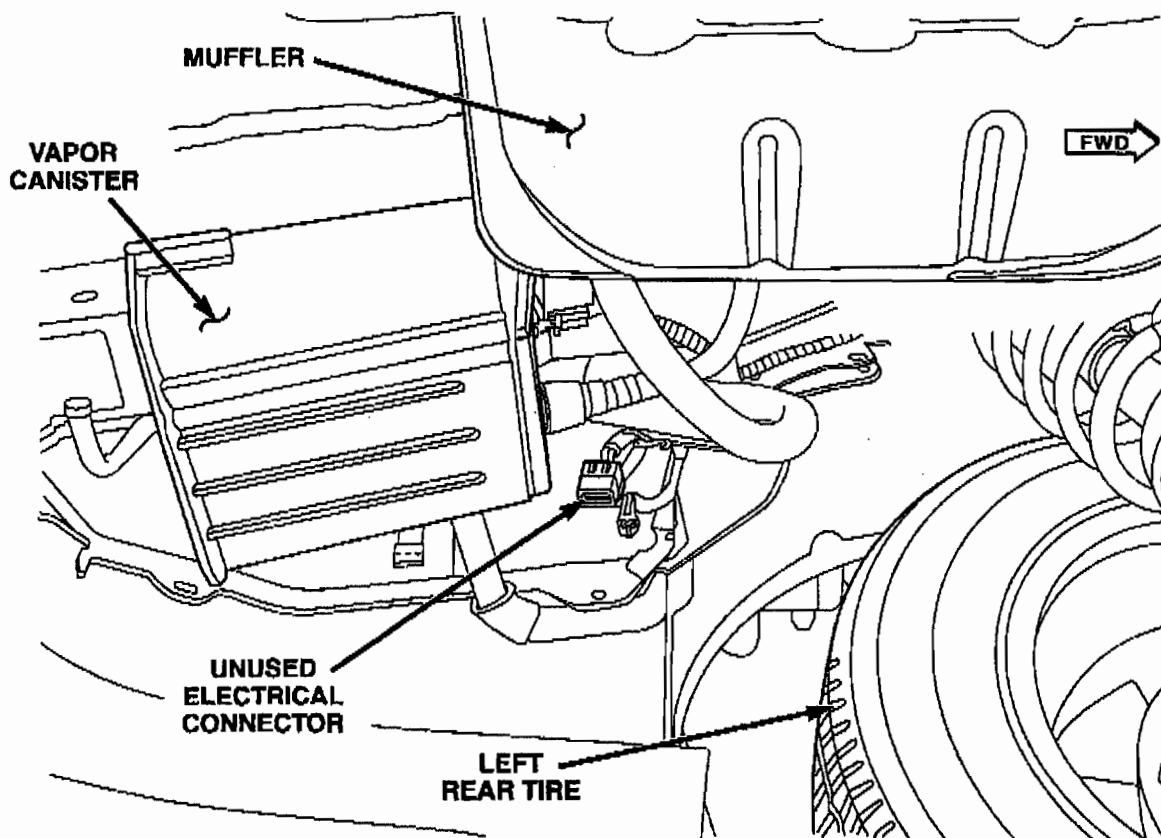

Figure 4 – Left Side Shown
14. Inspect the left and right rear wheel well areas to determine if there is an unused **left and right side rear** tire pressure monitor electrical connector (Figure 4).